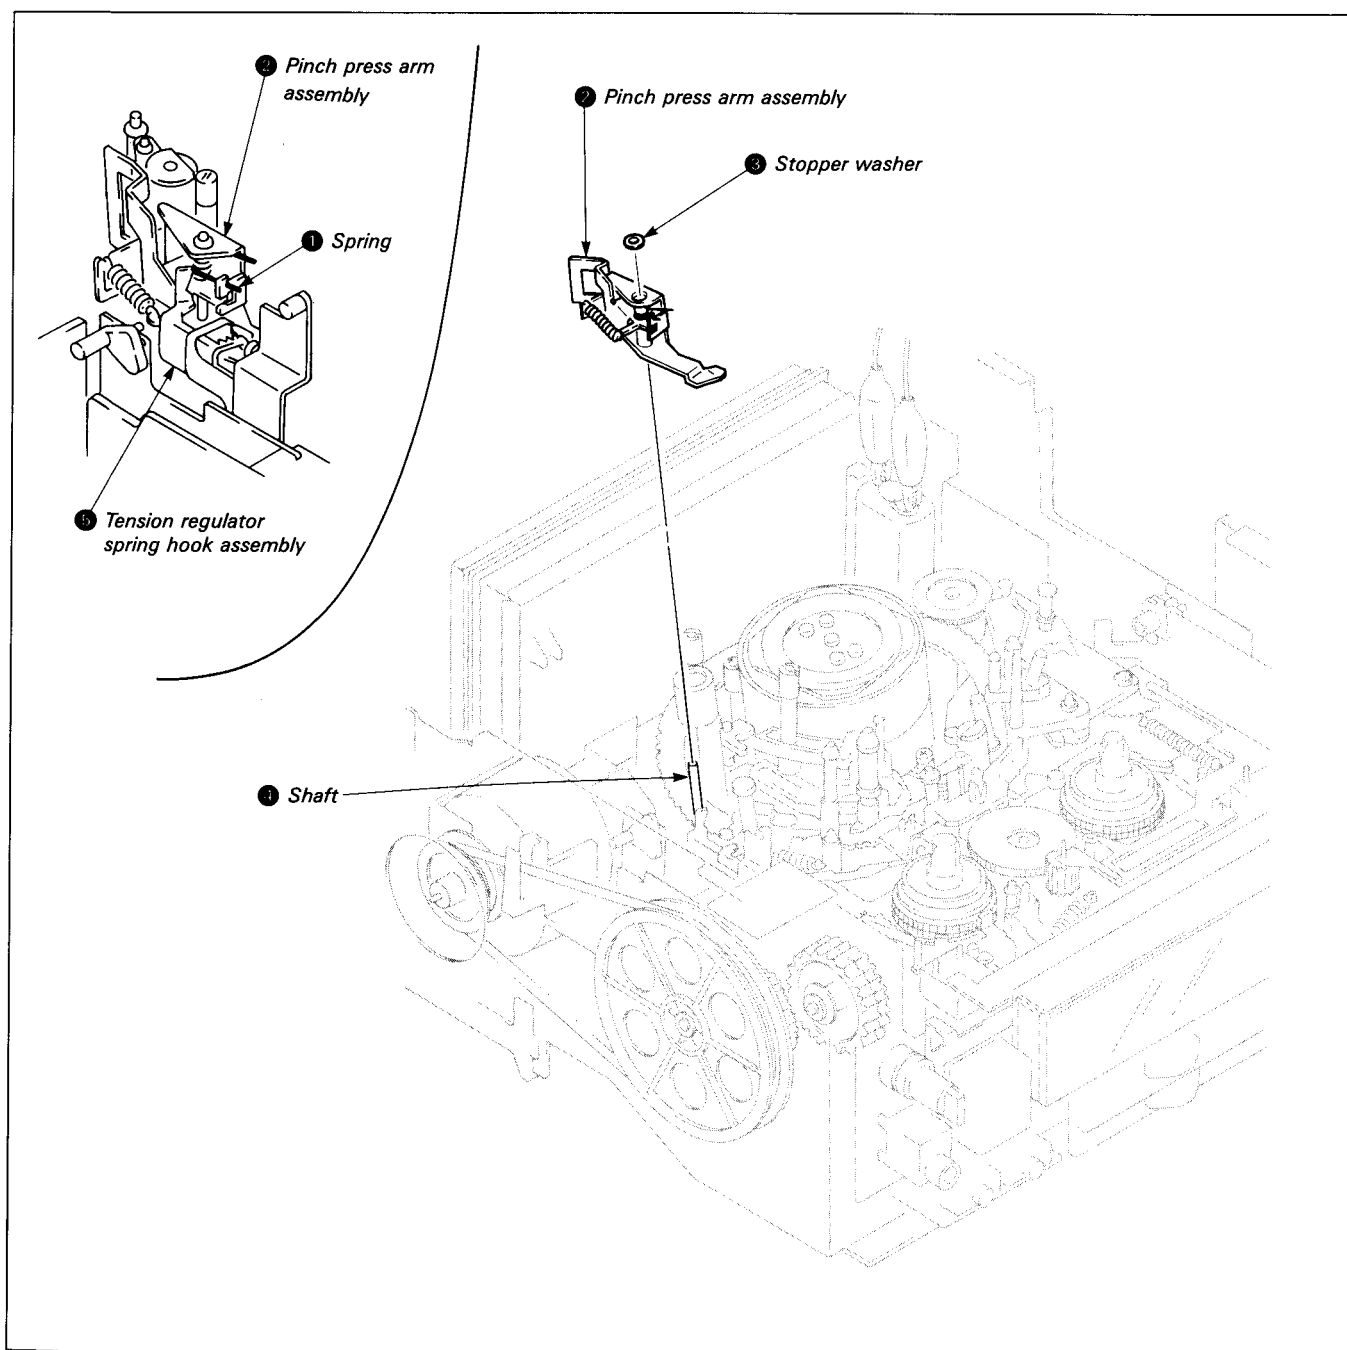

Fig. 7-8.
### 7-3-3. Pinch Press Arm Assembly (See Fig. 7-8)
- 3) Remove the LS motor belt ①.
- 4) Remove the Four screws ②, and then move the Front base ③ in the direction of arrow.
- 5) Change the spring position as described in 7-3-3. 1. Removal, 2). (See Fig. 7-8.)
- 6) Remove tension spring ④. (Note its position.)
- 7) Remove screw ⑤ and the tension regulator spring hook assembly ⑥.
- 9) Remove the tension regulator band assembly hook ⑦.
- 10) Remove the tension regulator arm assembly ⑧.
- 1) Place a half drop of oil on the spindle ⑨.
- 2) Mount the tension regulator arm assembly ⑧, placing the tension regulator load arm assembly pin ⑩ in the tension regulator arm assembly ⑧ cam groove (on the back).
- 3) Mount the tension regulator band assembly hook ⑦. (Do not touch the band or change its shape.)
- 5) Mount the tension regulator spring hook assembly ⑥ and tighten with screw ⑤.
- 6) Replace tension spring ④ in its original position and lock the screws.
- 7) Position the spring according to item 7-3-3, 2. Mounting, 3). (See Fig. 7-8.)
- 8) Mount the Front base ③, and then tighten with four screws ②.
- 9) Mount the LS motor belt ①.